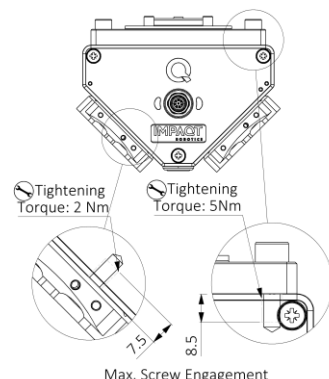

Figure 6: Maximum screw engagement for PQ90's robot and tool couplers
Every pneumagiQ PQ90 has two tool mounting faces and each of them requires a tool coupler (sold separately). Make sure to use the correct fasteners and O-rings while assembling the tool coupler and follow the tightening torques as given in the Figure 6.
While mounting the pneumatic EOAT to the tool coupler or while mounting the robot coupler to pneumagiQ PQ90, always take into consideration the maximum screw engagement and tightening torque as given in Figure 6.
Insert the dowel pins to the robot coupler and then use the fasteners to fasten the robot coupler to PQ90. Every robot coupler comes with a fastener kit with all the necessary fasteners to mount to PQ90 and the robot. Ensure to follow the tightening torques as given in the Figure 6.
1. The maximum screw engagement for the robot and tool coupler is given in Figure 6.
2. The tightening torque of the robot and tool coupler is $\pm 5\%$ of the value given in Figure 6.